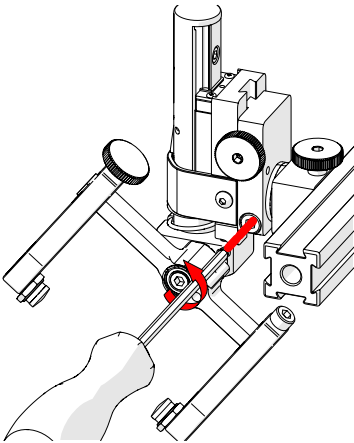

Fig. 134 - Loosen 3 mm screw
2. Using the supplied 3 mm hex driver (*Fig. 68*), loosen the longitudinal adjustment screw (*Fig. 134*).